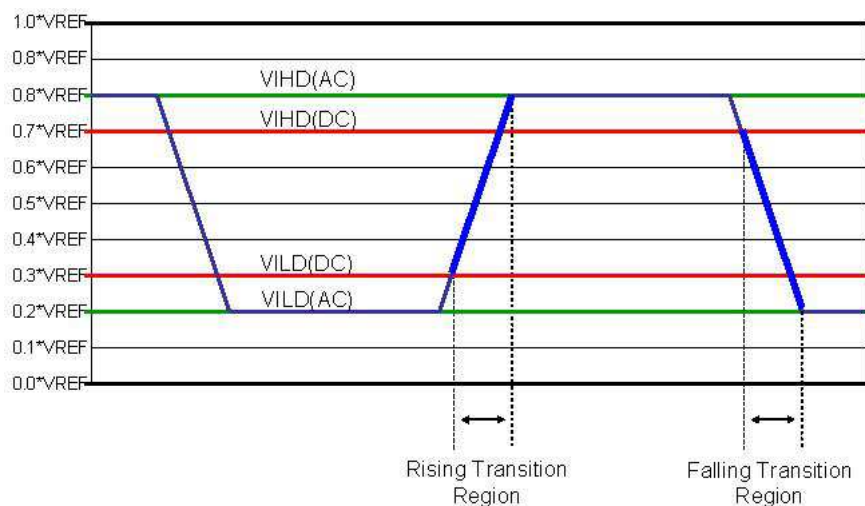

Figure 2. Low Speed (Ls) I/O Input Thresholds
(1) VILD(AC) min applies to undershoot.
(2) VIHD(AC) max applies to overshoot.
(3) Signal group 1 output slew rate for rising edge is measured between VILD(DC) to VIHD(AC).
(4) Signal group 1 output slew rate for falling edge is measured between VIHD(DC) to VILD(AC).
(5) Signal group 1: See Figure 2.
(6) Signal groups 2 and 3 output slew rate for rising edge is measured between VILD(AC) to VIHD(AC).